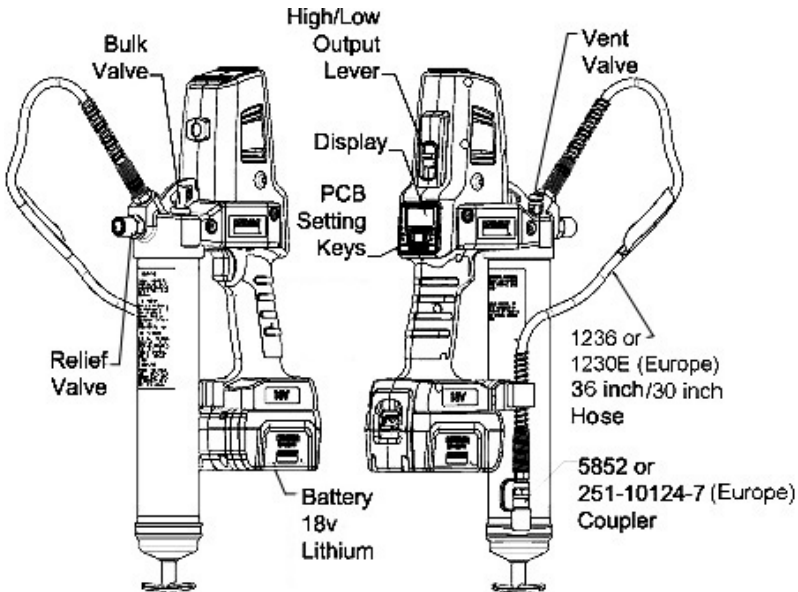

Figure 1
The safety valve (fig. 1) is factory set to relieve pressure above 7500 psi (517 bar). The valve also is an indicator of the bearing and lubrication line conditions. If grease comes out of the relief valve, it indicates a clogged or tight bearing or fitting or line. Correct this before continuing lubrication with the PowerLuber.
When motor is not running, push the lever (Fig. 1) until letter "L" or "H" will be completely visible in the window.
1. Prime the Power Luber after each refill or grease cartridge change. To prime, operate the gun until grease flows from hose. Use vent valve (Fig.1) to expel air pockets.